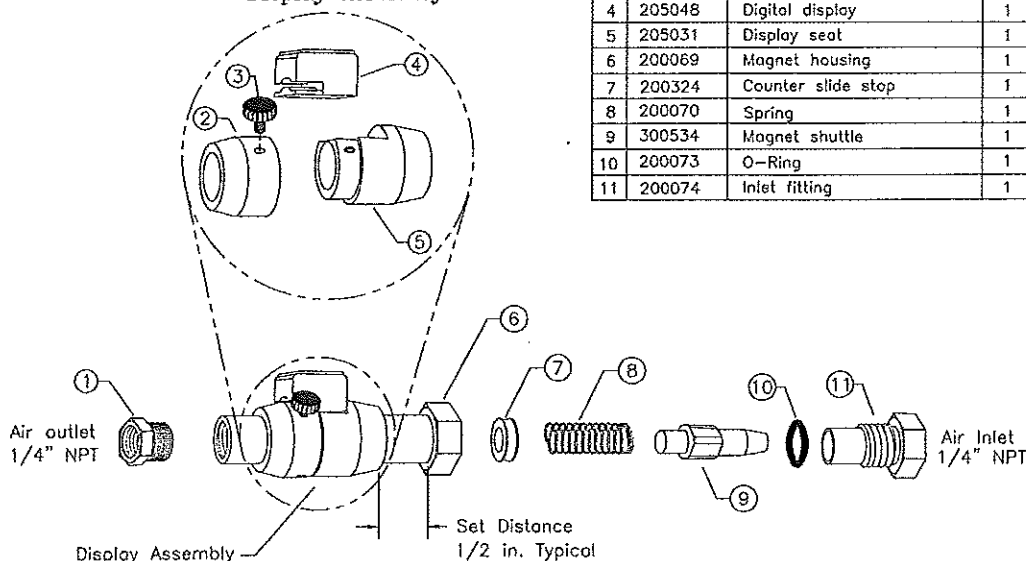

Figure 38 - Pump Cycle Counter Exploded View
- STEP 1 -** Loosen, but do not remove, the thumb screw (item #3) that locks the Display Assembly. (See Figure 38)
Sometimes the PCC does not count due to either the magnet shuttle or the spring hanging up inside the magnet housing. The counter components can be cleaned by *gently* washing the unit in warm water. A soft brush may be used to remove debris. To clean the inside, follow these instructions: (See Figure 38)
As a precaution, mark and/or measure with a pencil, the set distance (See Figure 38) so that it can be reset in the same position should movement occur. Do not loosen the thumb screw (item #3) since movement of the Display Assembly is unnecessary for cleaning.
Assembly of the Digital Display (Figure 38)
- STEP 1 -** Seat the digital display (item #4) on the flat of the display seat (item #5). (See Figure 38)